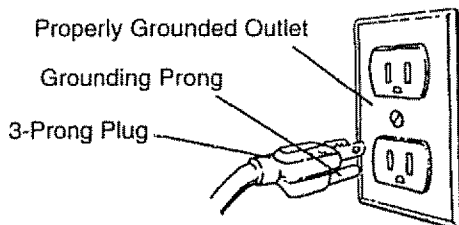

Figure 3 - 3-Prong Receptacle
- This tool is equipped with an approved cord rated at 150V and a 3-prong grounding type plug (see Figure 3) for your protection against shock hazards.
- Grounding plug should be plugged directly into a properly installed and grounded 3-prong grounding-type receptacle, as shown (see Figure 3).